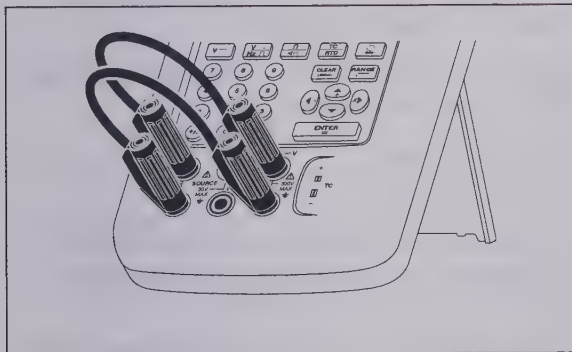
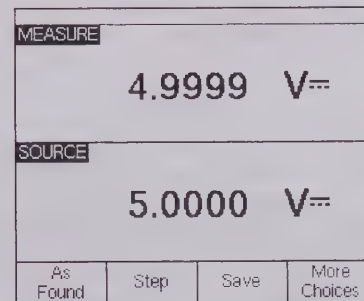

Figure 3. Jumper Connections for Demonstration
Figure 4. Measure/Source Example
3. Connect the calibrator's voltage output to its voltage input as follows: connect leftmost pair of jacks (V Ω RTD SOURCE) to the right most pair of jacks (V MEAS). (See Figure 3.)
4. Press ① to turn on the calibrator. Press  and  to adjust the display contrast for the best looking display. The calibrator powers up in the dc voltage measurement function, and is taking readings on the V MEAS pair of input jacks.
7. Now press  to go to the split-screen, simultaneous MEASURE/SOURCE mode. The calibrator is simultaneously sourcing dc volts and measuring dc volts. You can see the measurement readings in the top window, and the active source value in the bottom window as shown in Figure 4.